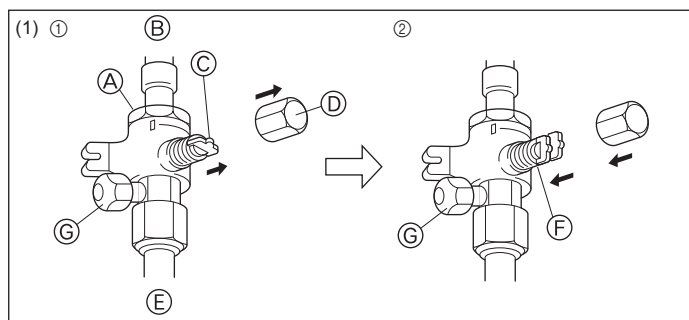
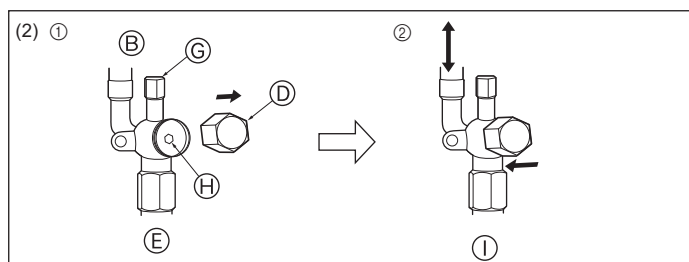

Fig. 4-9
Fig. 4-10
- (1) Gas side (Fig. 4-9)
- ① Remove the cap, pull the handle toward you and rotate 1/4 turn in a counterclockwise direction to open.
- ② Make sure that the stop valve is open completely, push in the handle and rotate the cap back to its original position.
- (2) Liquid side (Fig. 4-10)
- ① Remove the cap and turn the valve rod counterclockwise as far as it will go with the use of a 4 mm hexagonal wrench. Stop turning when it hits the stopper. (ø6.35: Approximately 4.5 revolutions) (ø9.52: Approximately 10 revolutions)